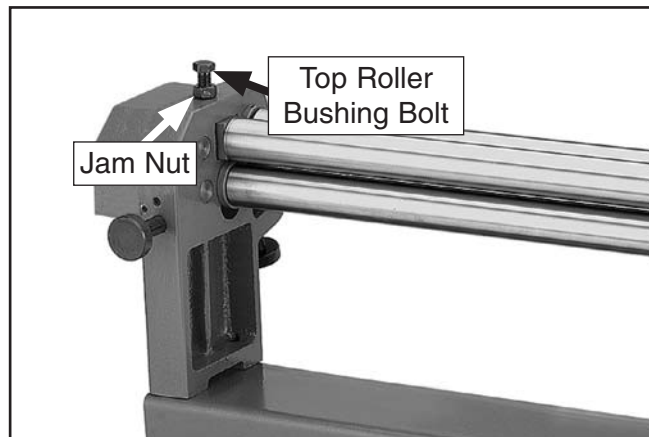

Figure 30. Hex bolt and jam nut (T21324 shown).
1. **T21324 only:** Loosen the hex bolt and jam nut that secure the top roller at the gearbox (**Figure 30**).